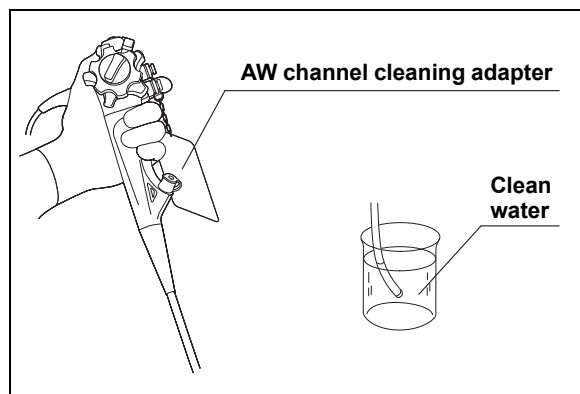

Figure 3.14
7. Immerse the distal end of the insertion tube in the water (see Figure 3.14).
8. Depress the AW channel cleaning adapter to feed water through the channels for 30 seconds. Release the valve to feed air through the channels for 10 seconds or more (see Figure 3.14).